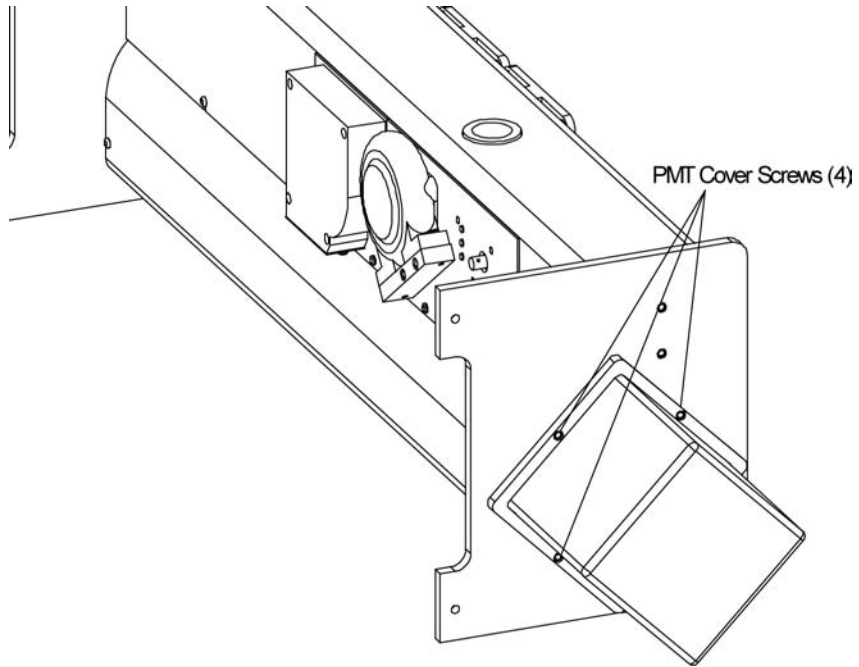

Figure 8-38
2. Unscrew the four screws attaching the PMT cover to the sensor and remove the cover (Figure 8-38)